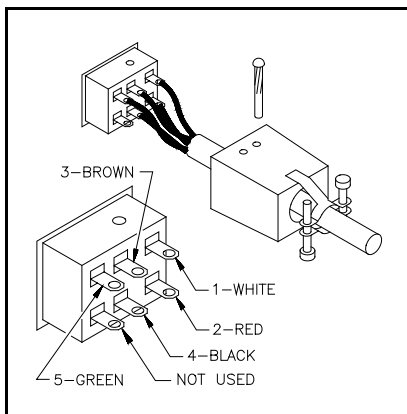

**Figure 3. Wiring diagram - no fuse**
- 4.6 Connect the white wire that comes from the triac to the fuse holder. Make sure the white wires are connected to the fuse holder as illustrated in Figure 2. (If the foot control does not have a fuse, cut the connector from the end of the white wire. Strip the wire 3/16" and solder it to the terminal of the six prong plug. See Figure 3.